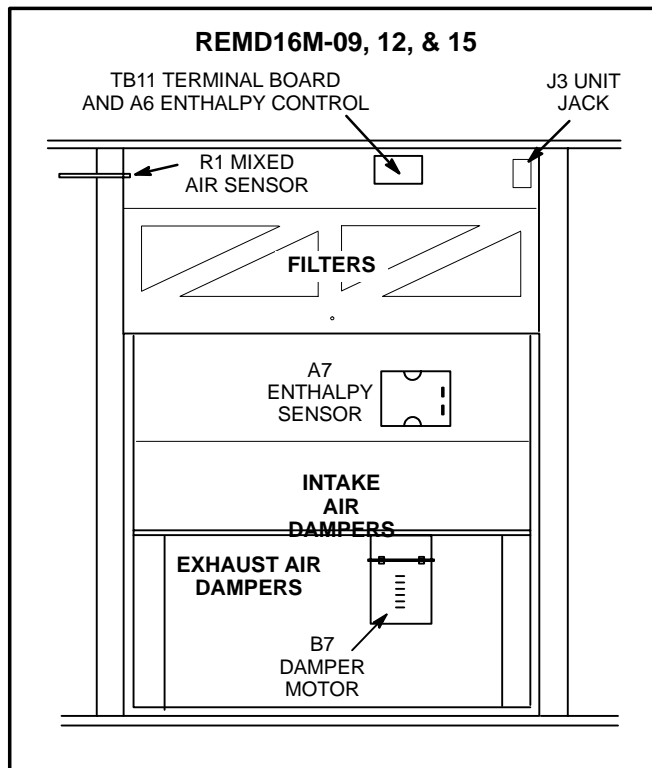

FIGURE 3
- 10- Position A6 control board in filter access area as shown in figure 3. Secure control board with two #10-16 X 5/8 screws.
- 11- Push out snap plug located at the left end of the filter access compartment. See figure 3. Insert R1 mixed air sensor tube through the hole into the supply air compartment. Secure using two #10-16 X 5/8 screws.